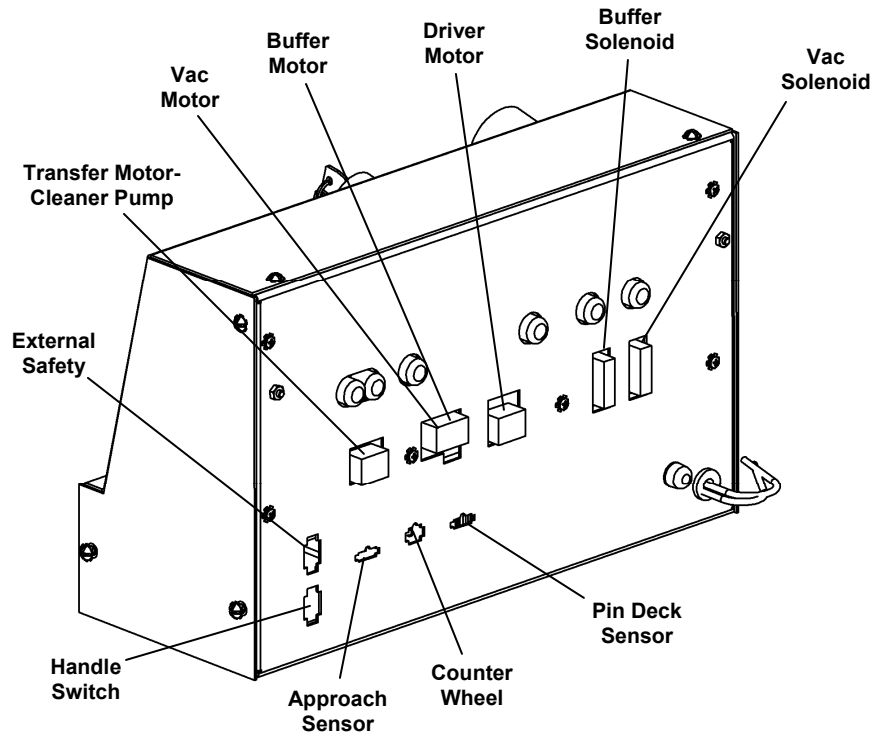

Figure 4-29
6. Follow the path of the sensor wire through the wire harness to the connector at the back of the control box. The connector is attached to the slot on the right in the bottom row, as shown in Figure 4-29.
6. Follow the sensor wire through the hole in the side of the machine, to the wire harness, and to the connector at the back of the control box. (The one on the bottom row that is two to the left of the pin deck sensor, as shown in Figure 4-29)